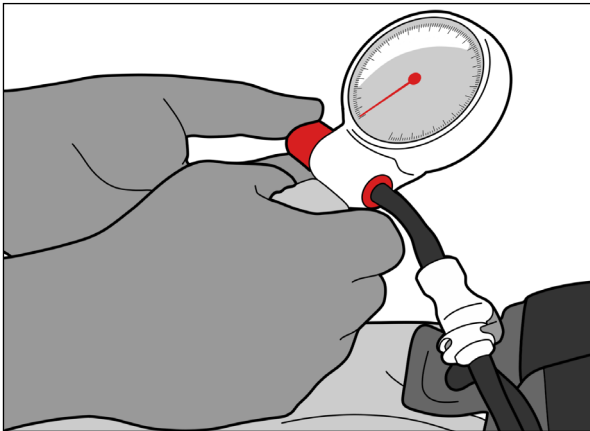

Fig. 18
2. Rotate knob away from you (Fig. 18).